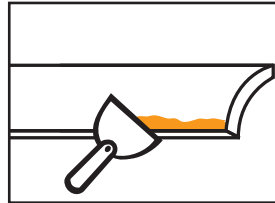

FIGURE 13
- Spread a 10mm continuous bead of cement along both back edges and the mitred end of the cornice. [Figure 13]